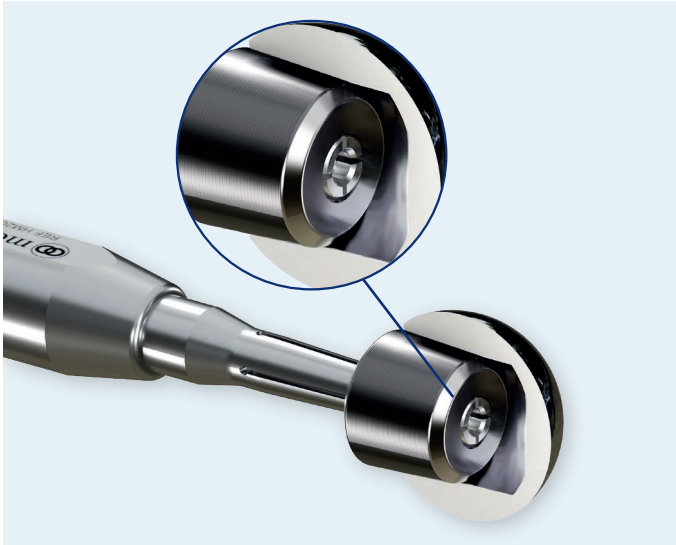

Figure 27 Close-up of lip
- To separate the implant components, push the BioBall™ Adapter with head over the separating sleeve until the lip engages behind the adapter (Fig. 27).